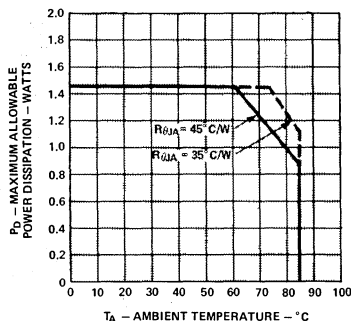

Figure 2. Maximum Allowable Power Dissipation vs. Temperature
- The device should be derated linearly above 60°C at 22.2 mW/°C. This derating is based on a device mounted in a socket having a thermal resistance from case to ambient at 25°C/W per device. See Figure 2 for power deratings based on a lower thermal resistance.
The HDSP-2450 series displays are available in standard ceramic dual-in-line packages. They are designed for plugging into sockets or soldering into PC boards. The packages may be horizontally or vertically stacked for character arrays of any desired size. HDSP-2450 series displays utilize a high output current IC to provide excellent readability in bright ambient lighting. Full power operation (VCC = 5.25V, VB = 2.4V, VCOL = 3.5V) with worst case thermal resistance from IC junction to ambient of 45°C/watt/device is possible up to ambient temperature of 60°C. For operation above 60°C, the maximum device dissipation should be derated linearly at 22.2 mW/°C (see Figure 2). With an improved thermal design, operation at higher ambient temperatures without derating is possible.